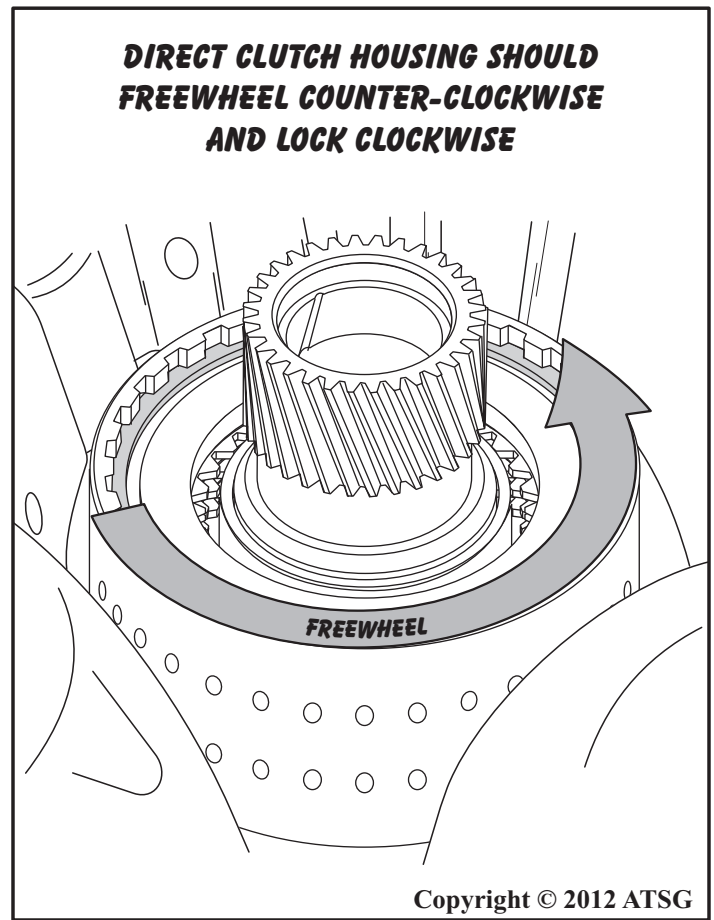

Figure 106
21. Temporarily install the direct clutch housing, as shown in Figure 106, to check proper operation of the reduction sprag (OWC-2).
Note: Direct clutch housing should freewheel counter-clockwise and lock in the clockwise direction, as shown in Figure 106.